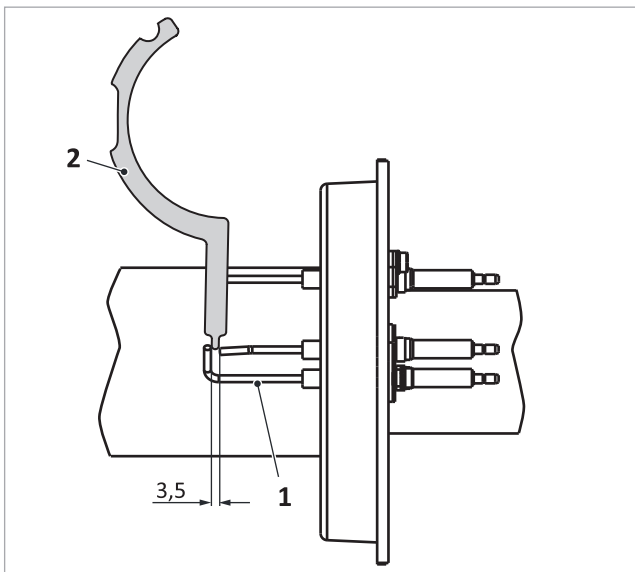

Fig. 114: Clearance from electrode to gauges on the ignition electrode
1. Check the clearance of the ionisation electrode using an electrode gauge → fig. 114 (2) (if necessary,
- Electrodes below one another → fig. 114 (1): 3.5 mm